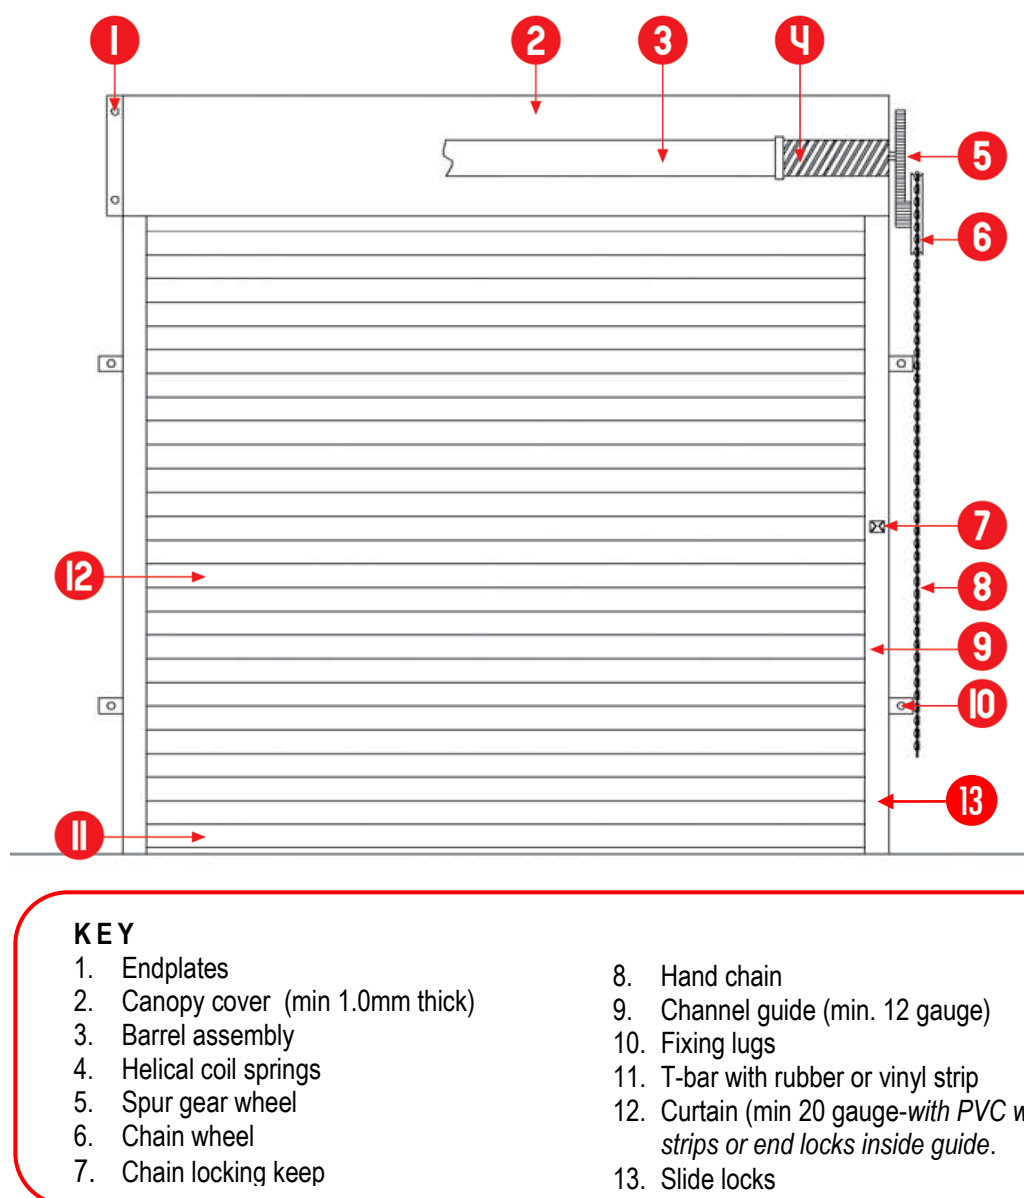

Fig 5: Diagram showing the minimum list of features the roller shutter door must be equipped with.
1. For diagram showing roller shutter door feature, see Figure 5.
5. Bottom Rail (T-Bar) Assembly (11). The bottom edge of the curtain to be reinforced with a double steel angle to form an inverted T-section to be riveted to or welded unto the bottom slat. T-bars to be constructed of aluminum extrusion reinforced by 2" x 1-1/2" galvanized steel angle, and to have a replaceable vinyl or rubber strip weather seal. Slide bolts (for Padlocks) to be installed on either side of the T-Bar.